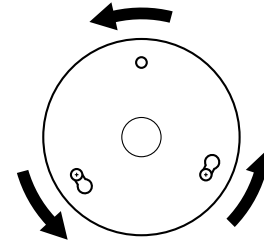

Figure 8b - Mounting the Upper Switch Housing
4. Turn the upper switch housing counterclockwise until the housing assembly screws are firmly situated in the narrow end of the keyhole slots as shown in Figure 8b. Install the one remaining #6-32 x 3/8" housing assembly screw into the third hole in the upper switch housing. Tighten all three screws firmly.